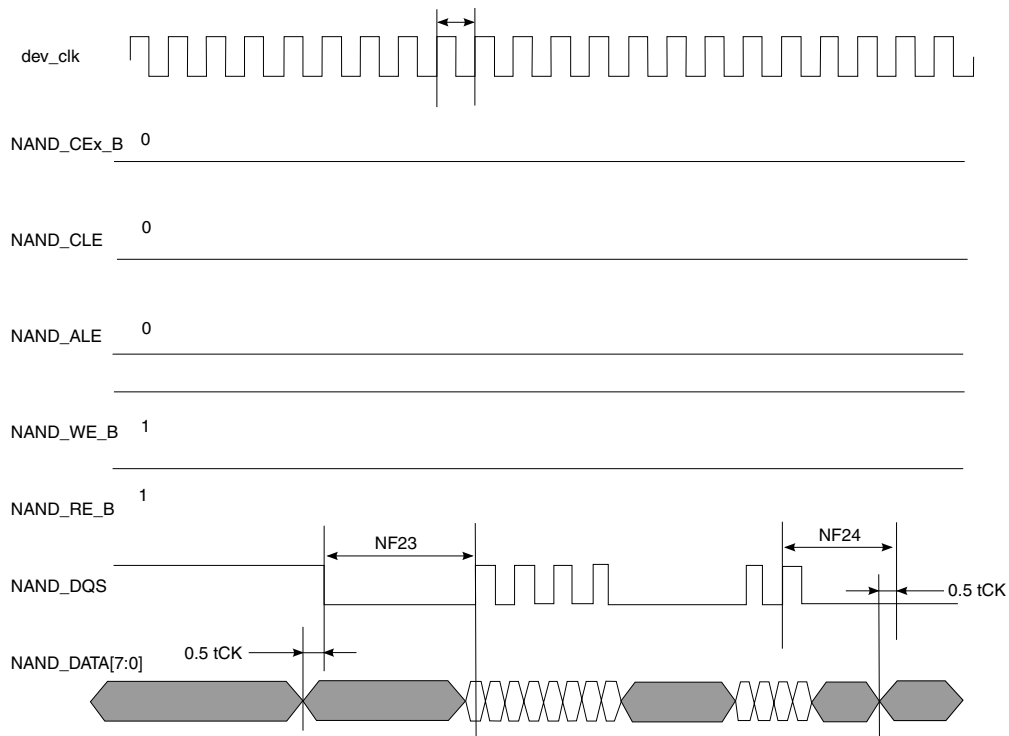

Figure 32. Samsung Toggle Mode Data Write Timing
- ⁶ Shown in Figure 32, Samsung Toggle Mode Data Write Timing diagram.